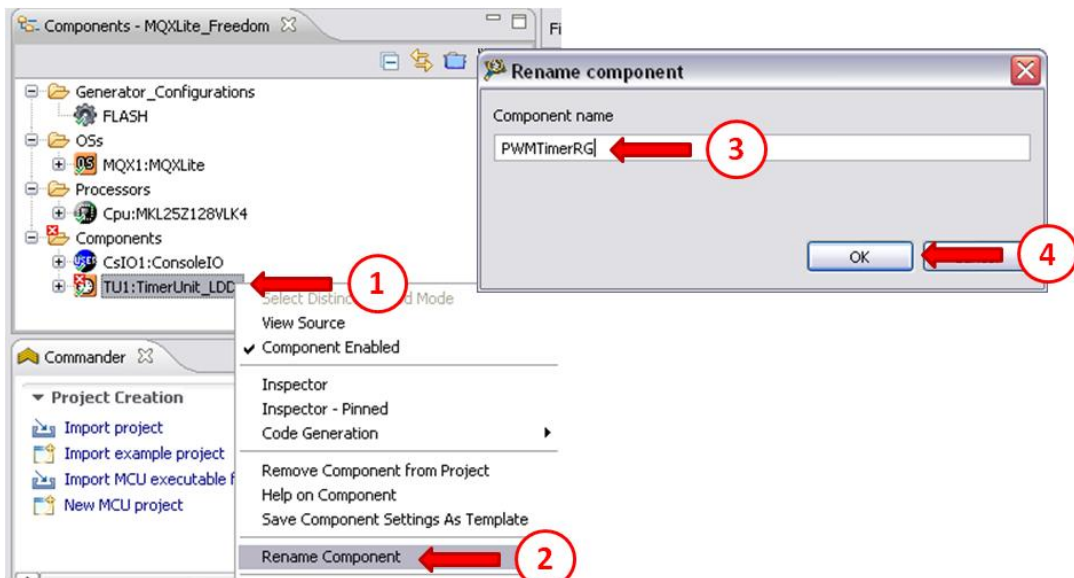

Figure 31. Modify component name.
3. It is necessary to change the name to standardize the source code. To modify the name of the component give a right click on it and then give the "PWMTimerRG" name. This name means that this PWM controls the Red and Green LED inside the RGB LED. Figure 31 shows the details.